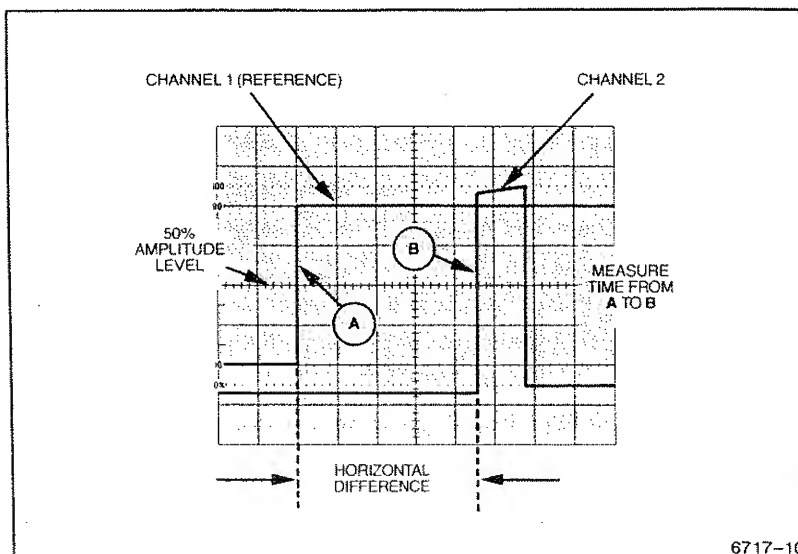

Figure 3-7. Time difference between pulses on time-related signals.
8. Set the SEC/DIV control to a sweep speed that provides three or more divisions of horizontal separation between measurement points on the two displays. Center each of the displays vertically (see Figure 3-7).
**EXAMPLE.** In Figure 3-7, the SEC/DIV control is set to 50  $\mu\text{s}$  per division and HORIZONTAL MAG is set to X10. The horizontal difference between waveform measurement points is 4.5 divisions.